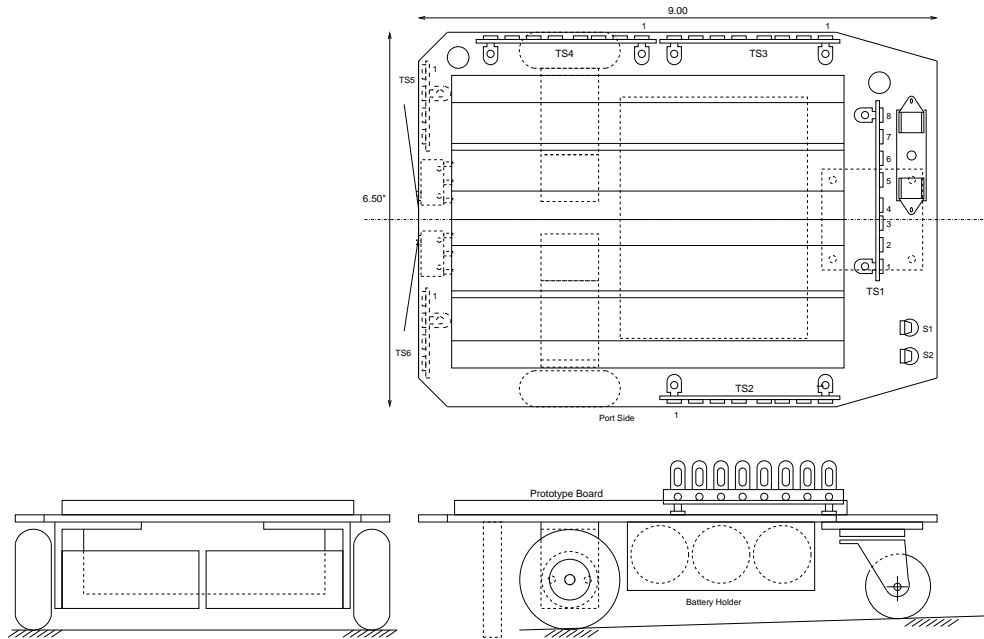

Figure 1: Robot Three View
An overall 3-view of the robot is shown in figure 1.
1. Note the names of the terminal strips and how the terminals are numbered, as shown on the three-view of figure 1.